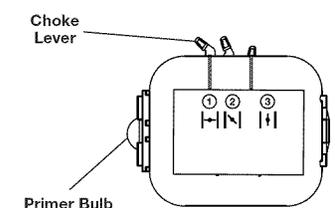

Fig. 12
**NOTE:** There is no need to turn the unit on. The On/Off Switch is in the ON (I) position at all times.
2. Fully press and release the primer bulb 10 times, slowly. Some amount of fuel should be visible in the primer bulb (Fig. 12). If fuel cannot be seen in the bulb, press and release the bulb until fuel is visible.
3. Move the choke lever to **Position 1** (Fig. 12).
5. **Do not squeeze the trigger.** Move the choke lever to **Position 2** (Fig. 12).
8. Continue to squeeze the trigger. Move the choke lever to **Position 3** (Fig. 12) and continue warming the engine for an additional 60 seconds. The unit may be used during this time.
6. **Do not squeeze the trigger.** Move the choke lever to **Position 2** (Fig. 12).
10. Continue to squeeze the trigger. Move the choke lever to **Position 3** (Fig. 12) and continue warming the engine for an additional 60 seconds. The unit may be used during this time.